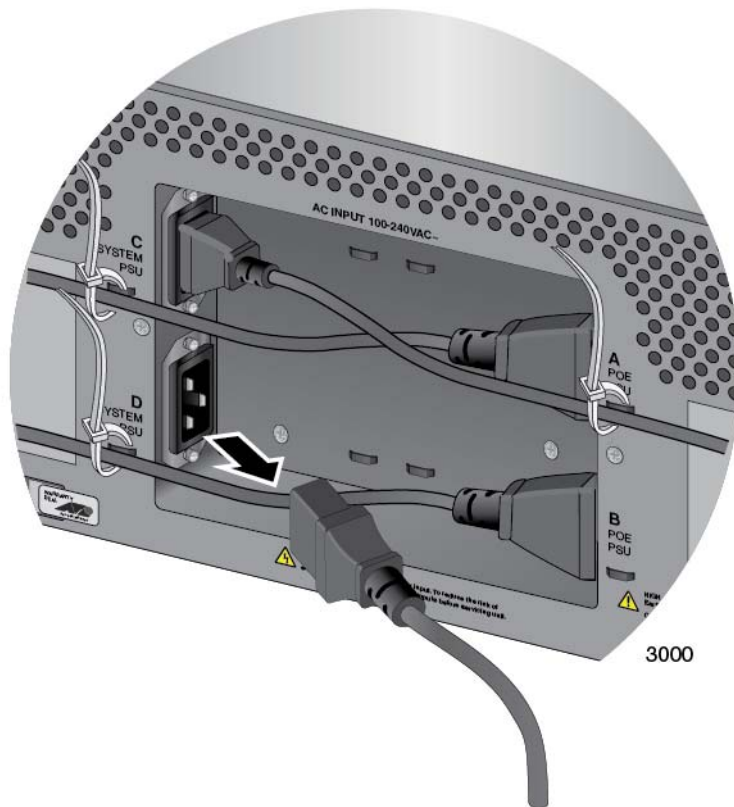

Figure 155. Disconnecting the AC Power Cord from the AC Socket on the Back Panel
1. Disconnect the AC power cord for the power supply from the AC power source and the corresponding AC socket on the back panel of the chassis. The figure in Figure 155 on page 253 shows the removal of the power cord from connector D, which corresponds to slot D on the front panel.